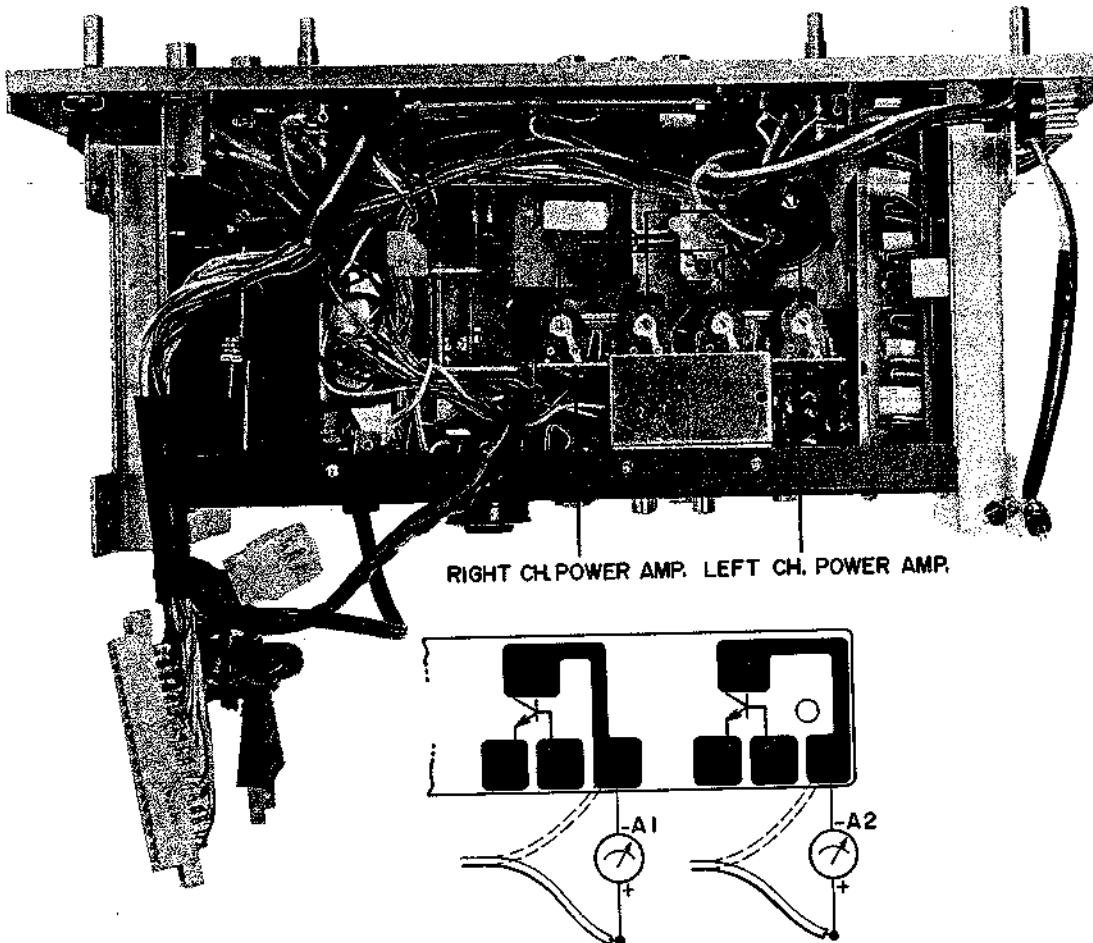

Fig. 23
- 3) Adjust Semi-fixed Resistors VR1 and VR2 (1 k Ω) in Fig. 23 so that the 2 ammeters (A1, A2) indicate 18 to 20 mA.